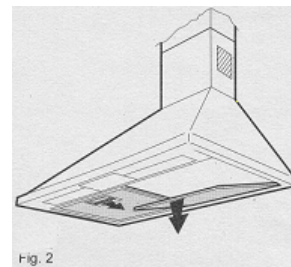

Fig. 2
Remove the filter using the handles designed for this purpose by pulling the filter backwards and then downwards (Fig. 2).
2. Remove the metal grease filters (Fig. 2)
2. Remove the grease filters (Fig. 2).